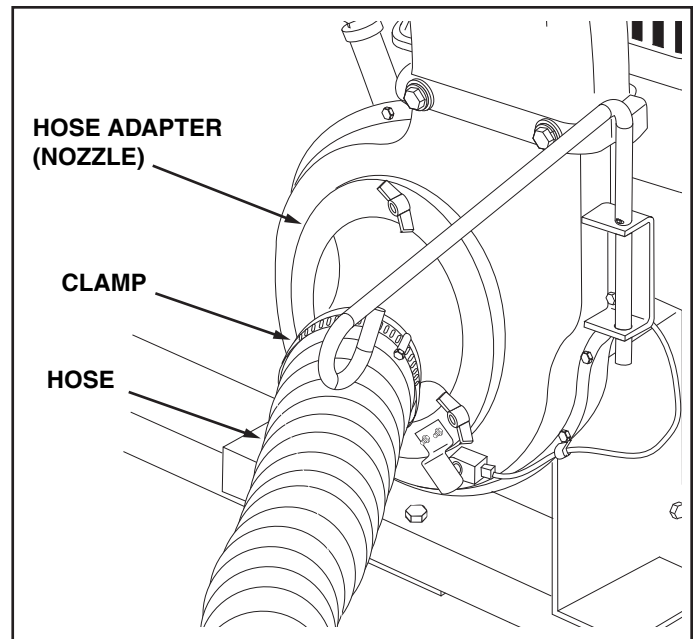

FIGURE 11
- Place a hose clamp onto the end of the hose. Push the hose onto the hose adapter (nozzle). Tighten the hose clamp onto the hose and hose adapter. Do not collapse the hose adapter when tightening the clamp. See figure 11.